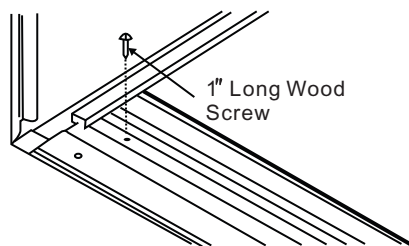

Fig.6
4. Secure bottom rail to wood frame with two large wood screws 1 "(2.5cm) long using the two holes in the bottom of the channel resting on frame.(See Fig.6 ).